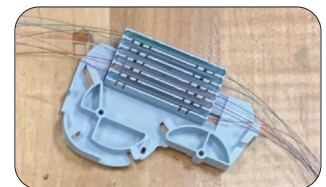

Figure 12
12. Load splice protectors into splice holder. **(Figure 12)**